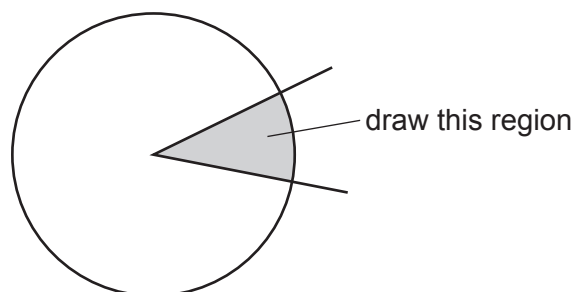

Fig. 2.1
- (a) (i) Draw a large plan diagram of the region of the stem on **M1**, indicated by the shaded area in Fig. 2.1.